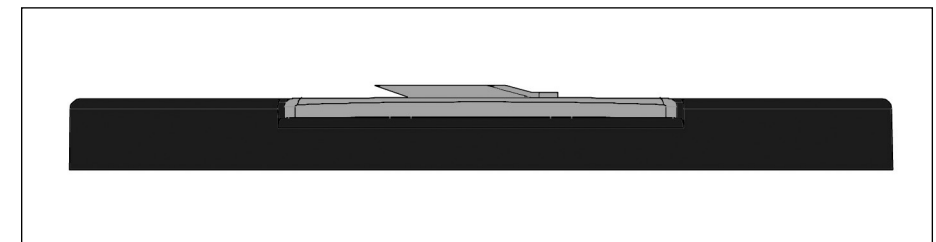

Figure 2
- 3 Press the BLADE down into the SLICER/SHREDDER BLADE DISC until it clicks into place and is flush with the SLICER/SHREDDER BLADE DISC as shown in Figure 2.